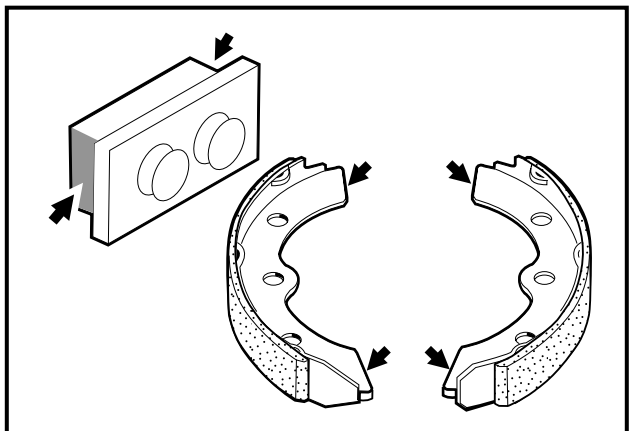

Figure 6-10 Lubricate Shoes
5. Use a small brush to carefully apply a light coat of white lithium NLGI #2 grease (Dow Corning BR2-Plus or equivalent) to each end of both brake shoes and into the slots in the brake shoe mounting block as shown (**Figure 6-10, Page 6-6**). See preceding **WARNING**.